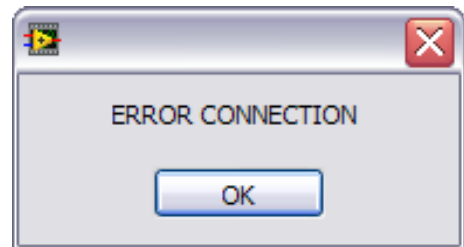

Figure 3. Error Message
3. Determine if the SDP board is connected to the boards. If the SDP board is not connected to the evaluation boards, a message box appears as shown in Figure 3. Check the connection between the SDP and EVAL-AD5668EBZ boards and run the program again.